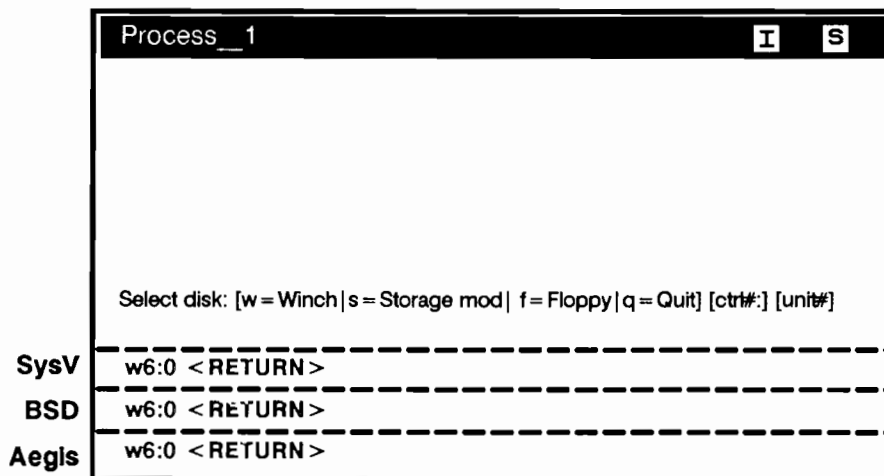

Figure 3-37. *invol* Prompt for Identity of First Disk in Set
4. The **invol** utility prompts for the identity of the first disk in the multidisk set as shown in Figure 3-37.